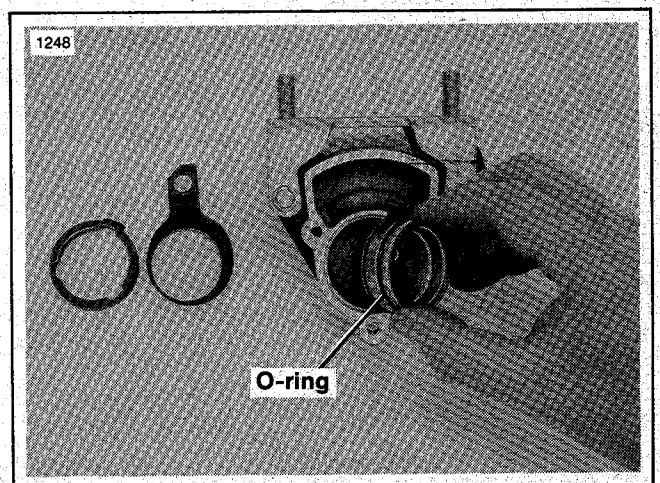

Figure 2-18. Remove Floating Puck
- Remove floating brake puck from caliper. Note O-ring on floating brake puck (Figure 2-18).